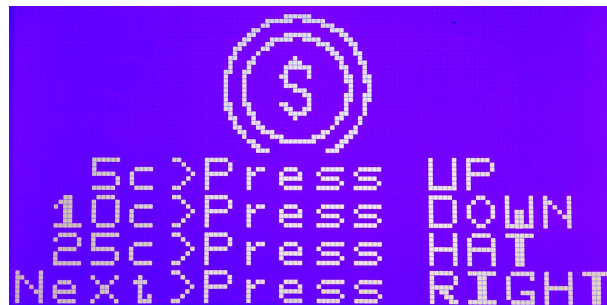

Fig 1: Put Coin Screen(Initial)
- Instructions for coin entry and mapped switch presses should be displayed on screen.(As in Fig 1)
Handles all input switch press detection. Use Switch debouncing to accurately detect switch press. Since switch behaviour is different in different states, define switch behaviour accordingly in different states. Ex: UP Switch denotes Dime Enter in *COIN* state(Fig 1), but cancels transaction in *SELECT* state(Fig 5).
Handles output screens to be displayed on GLCD corresponding to different states. Also handles LED output in *DELIVERY* state. Ex: Coin Enter Screen in *COIN* state(Fig 1), and Select Soda Screen in *SELECT* state(Fig 5) are state-dependent.